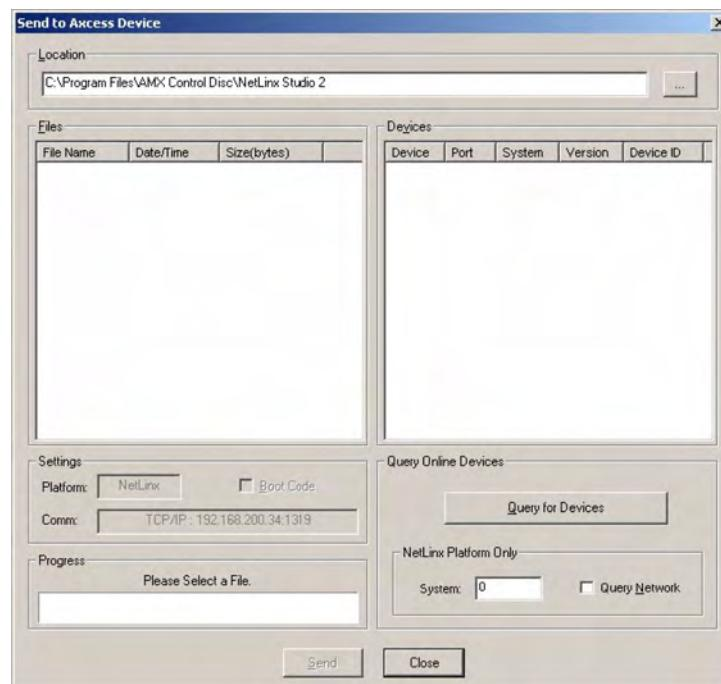

FIG. 4 Send to Axcess Dialog Window
5. Go to **Tools > Firmware Transfers > Send to Axcess Device...** This opens the *Send to Axcess* Dialog Window(FIG. 4).